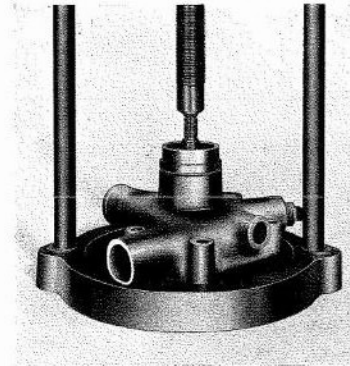

Fig. Q.3.
3. Using tool No. T.7000 press the shaft complete with impeller out of the body. See Fig. Q.3.